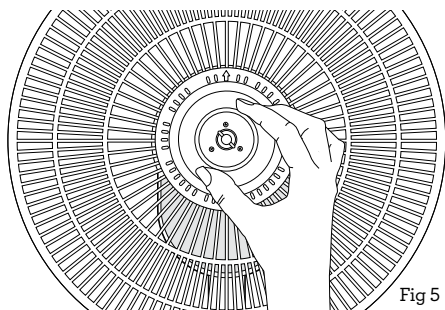

Fig 5
4. Refit the rear grille locking nut and secure the rear grille by turning the locking nut clockwise (Fig 5). Make sure the rear grille has not slipped off the locating pins before tightening. This should be done by hand. Do not use force to secure.